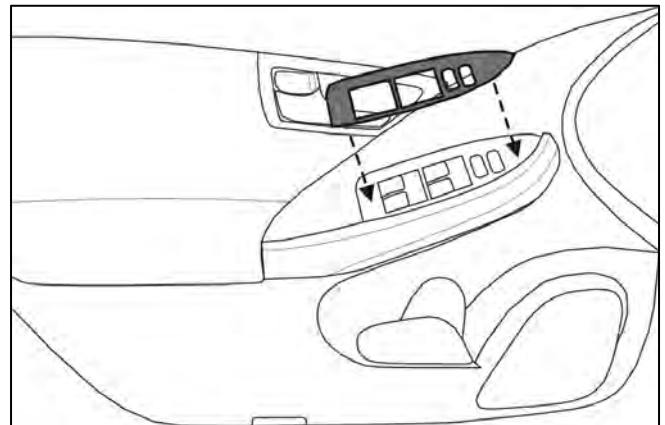

Fig. 5-1
-  (1) Align part uniformly to edge of factory component. (Fig. 5-1)
- (2) Gently touch part into position.
- (3) Edge of appliqué should be flush to edge of factory component, +/- 2.0mm.
-  (4) Once positioned, press part firmly into place by applying finger pressure. Pressure is required for adequate bond to factory component.